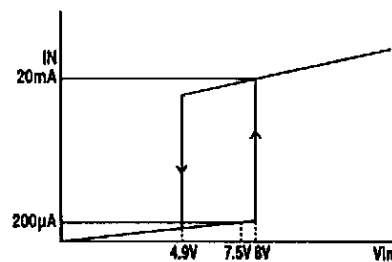

Fig .2 V_{IN} Terminal Voltage Circuit Current V_{IN}
If Convergence magnet assembly and rubber wedges need mechanical positioning follow figure 2.
- 6) Rotate and spread the tabs of the purity magnet (See figure 2) around the neck of the picture tube until the green belt is in the center of the screen. At the same time, center the raster vertically.
- 2) Place a wedge as shown in figure 2 temporarily. (Do not remove cover paper on adhesive part of the wedge.)
A Start-up circuit is to start and stop a operation of a control IC by detecting a voltage appearing at a V_{IN} terminal(pin-9).At start up of a power supply, when a voltage at the V_{IN} terminal reaches to 8V by charging up C809 by the function of a start-up resistor, R_s , a control circuit starts operating by the function of the start-up circuit. As shown in Fig. 2, since a circuit current is suppressed 200 μA maximum (at $V_{IN} = 7.5V$) until the control circuit starts its operation.